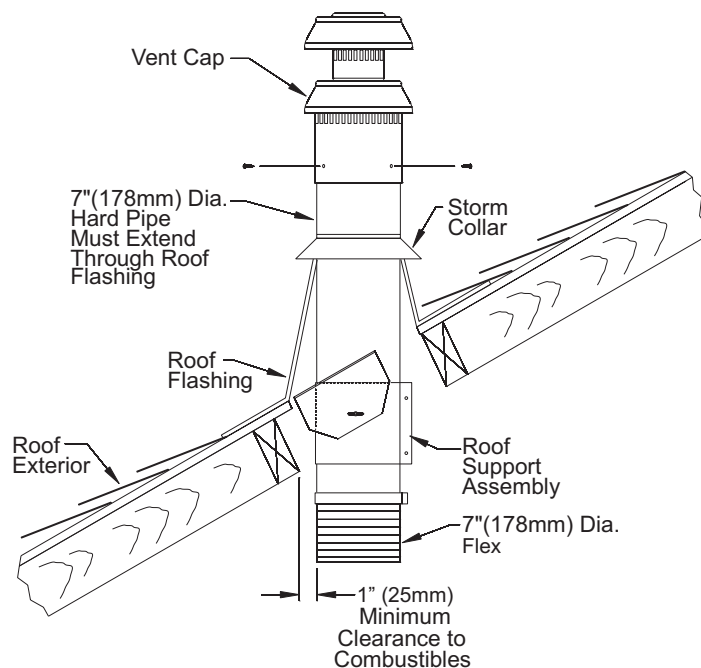

Figure 37
19. Once the lower connections are made and the flex pipe is secured with support bands as required (3 feet minimum between supports) then the roof flashing can be installed. **See Figure 37.**
22. To complete the vent installation, install the vent termination cap to the top of the hard vent pipe assembly. Mate up the flue and outer telescopes with the hard pipe assembly, then secure by installing a minimum of two (2) sheet metal screws into the overlapped flanges of the cap and pipe.